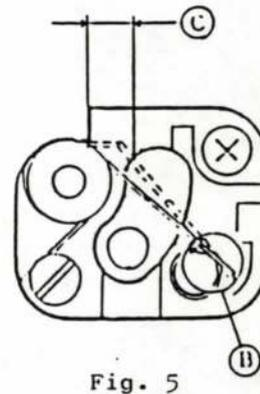

Fig. 5
- 1) In the same manner as Type I, step 1) and 2), turn the variable resistors P and BD, and let the LEDs P and BD light up on both sides of Light source and L.panel.(Fig.5)
- 2) Check the trigger spring (1) bended for adjusting, and if it is the state of (3), readjust the spring by bending it within the range of (C). (Fig 5 )